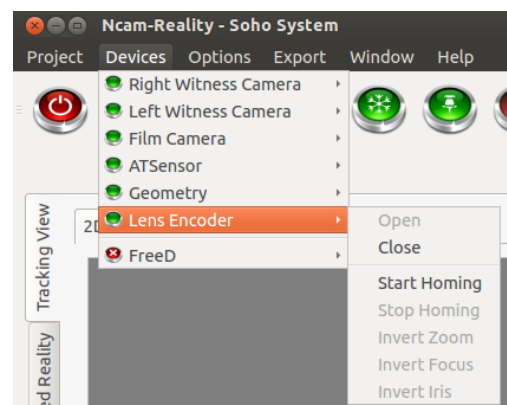

Figure 2
- If any of the values are reversed, for example, at minimum lens position there is a reported encoder value of 1, then the relevant range for that ring should be inverted, this is done in the software by selecting *Devices > Lens Encoder > Invert Zoom / Focus / Iris* (Fig 2)